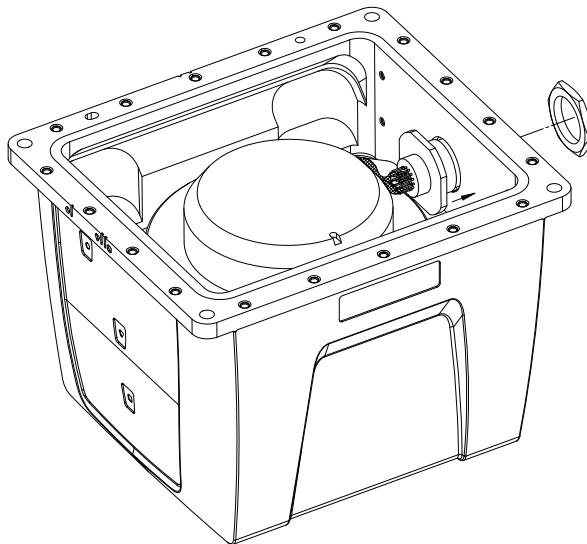

Figure 51: Fasten Internal Cable Harness
5. Connect the internal cable harness to the enclosure body, as shown in *Figure 51*. During this step, ensure the connector O-ring (supplied with the connector of the internal cable harness) remains flat within the connector's groove, and make sure the groove is clean and free of debris. Fasten the connector to the enclosure body wall using the jam nut supplied with the connector. Apply thread-locking fluid then, with a 30 mm socket, tighten the jam nut to 6.9 N·m (61 lb-in/5.1 lb-ft).